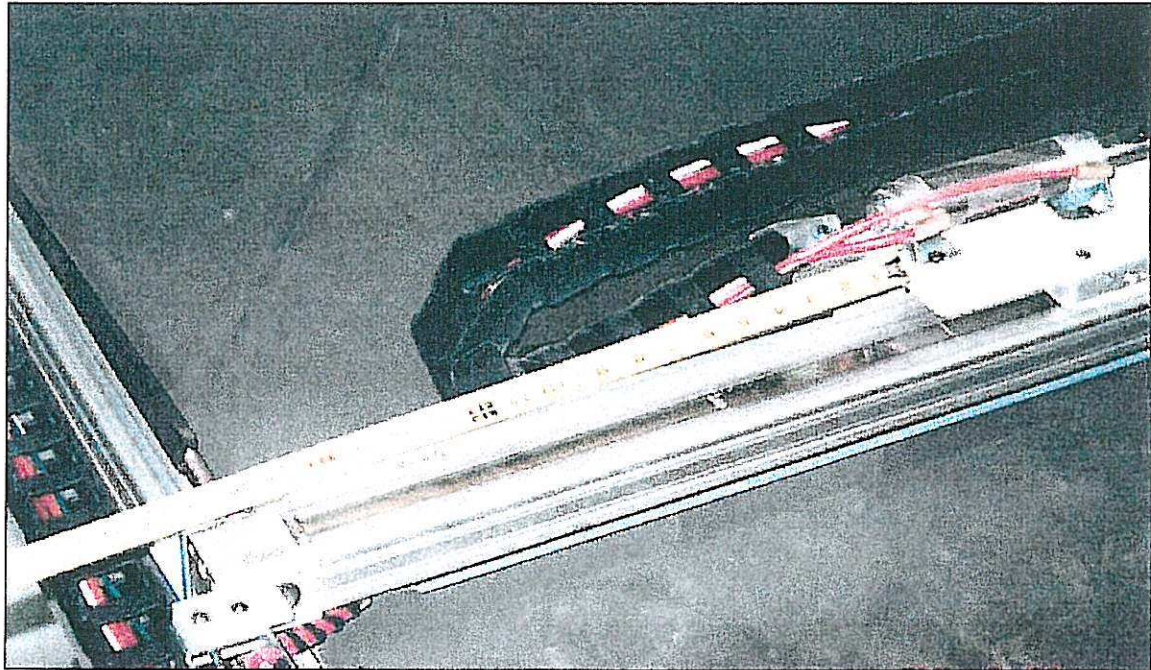

Figure 2.6
- J. The distance from the rear of the frame pusher on the Y-rail to center of the square drive shaft should be the same on the right as it is on the left. See *Figure 2.6*.